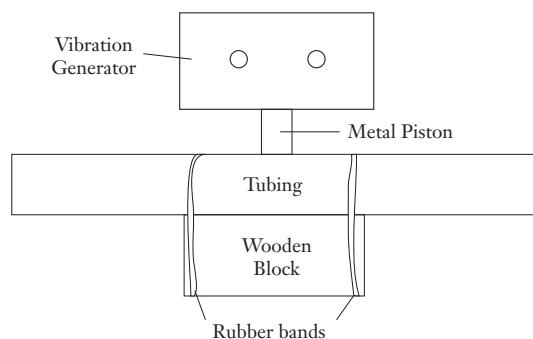

Figure 1.
1. Secure wooden block and tubing using rubber band as shown in Figure 1. The wooden block is held in place with an extension buret clamp.
7. Adjust vibration generator so that the movable metal piston is lightly pressing on the tubing that is secured to the wooden block (see Figure 1).